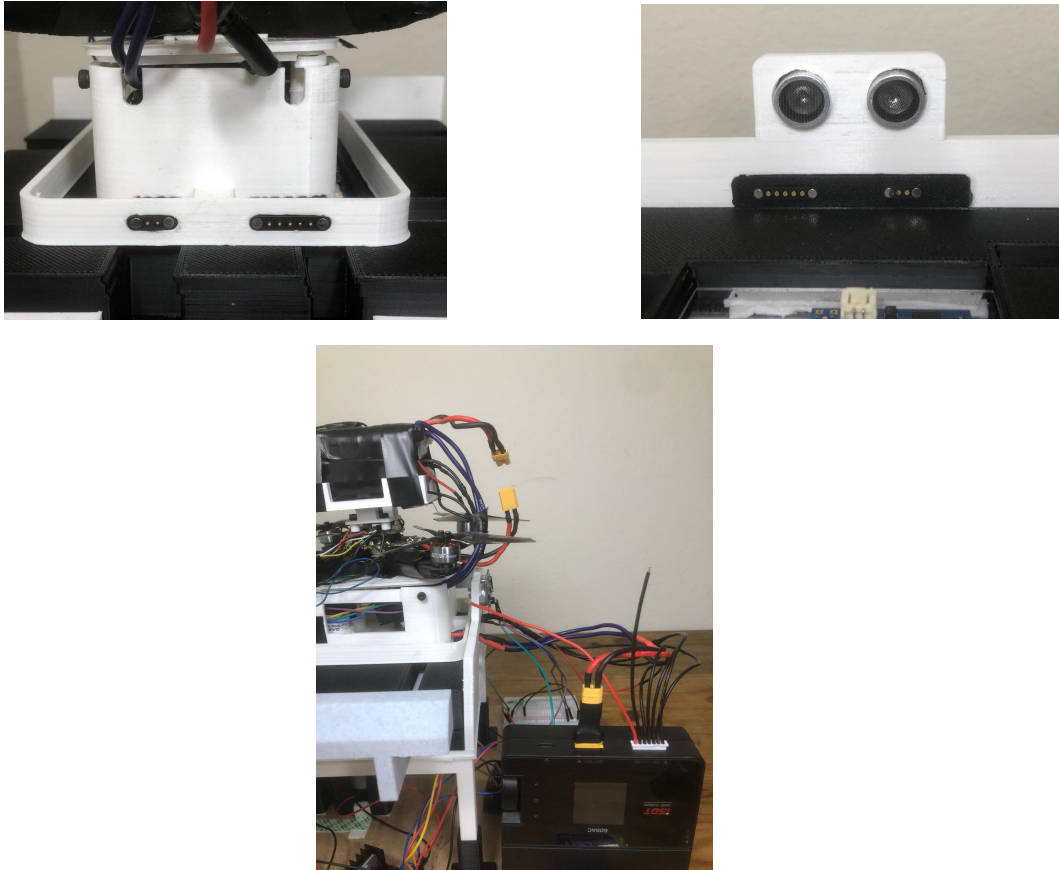

Figure 6: CAD of the battery mount, magnetic pogo pin connector fixture and battery wiring connection
- 4.6.1. Mount the battery pack onto the drone's CAD battery mount using electrical tape, ensuring the XT60 connector aligns with the drone's power input. Connect the XT60 female connector on the drone to the battery's XT60 male connector as seen in Figure 6.